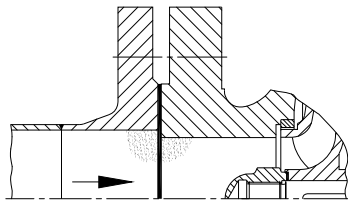

Fig. 8: Flow eddies
- Never connect a larger suction pipe direct to the pump. Flow eddies reduce the free flow area of the pump. Use an eccentric reducer. Consider Figure 8 + 9.